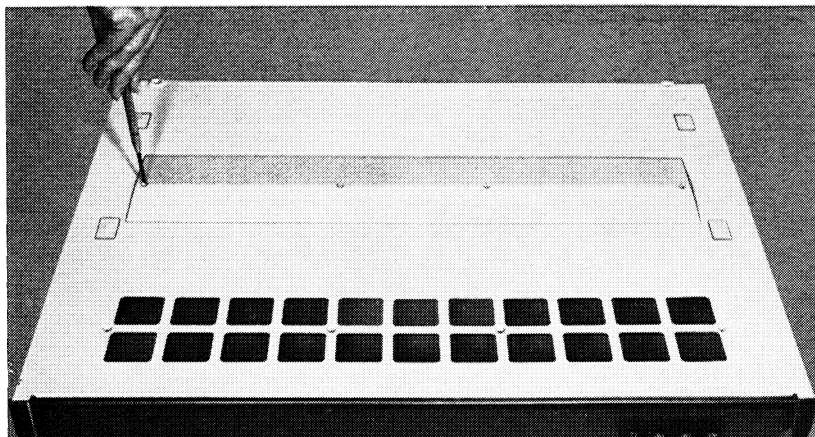

Abb. 6
3. Unscrew cover and screw it with the 4 screws onto the exhaust air outlet. The recirculating air outlets at front which are now open must never be covered (fig. 6).